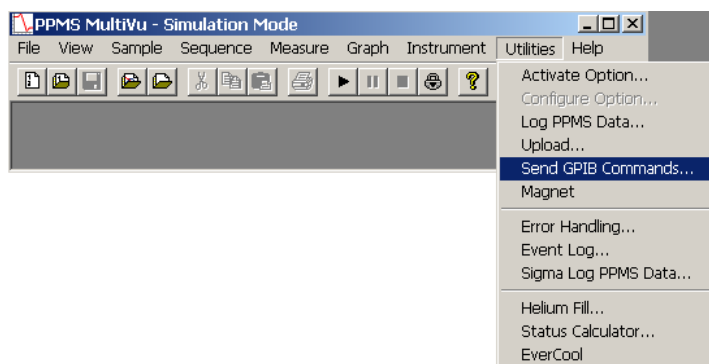

Figure 1. Opening the Send GPIB Command utility in MultiVu
1. Select **Utilities >> Send GPIB Commands** from the MultiVu dropdown menus (Figure 1).